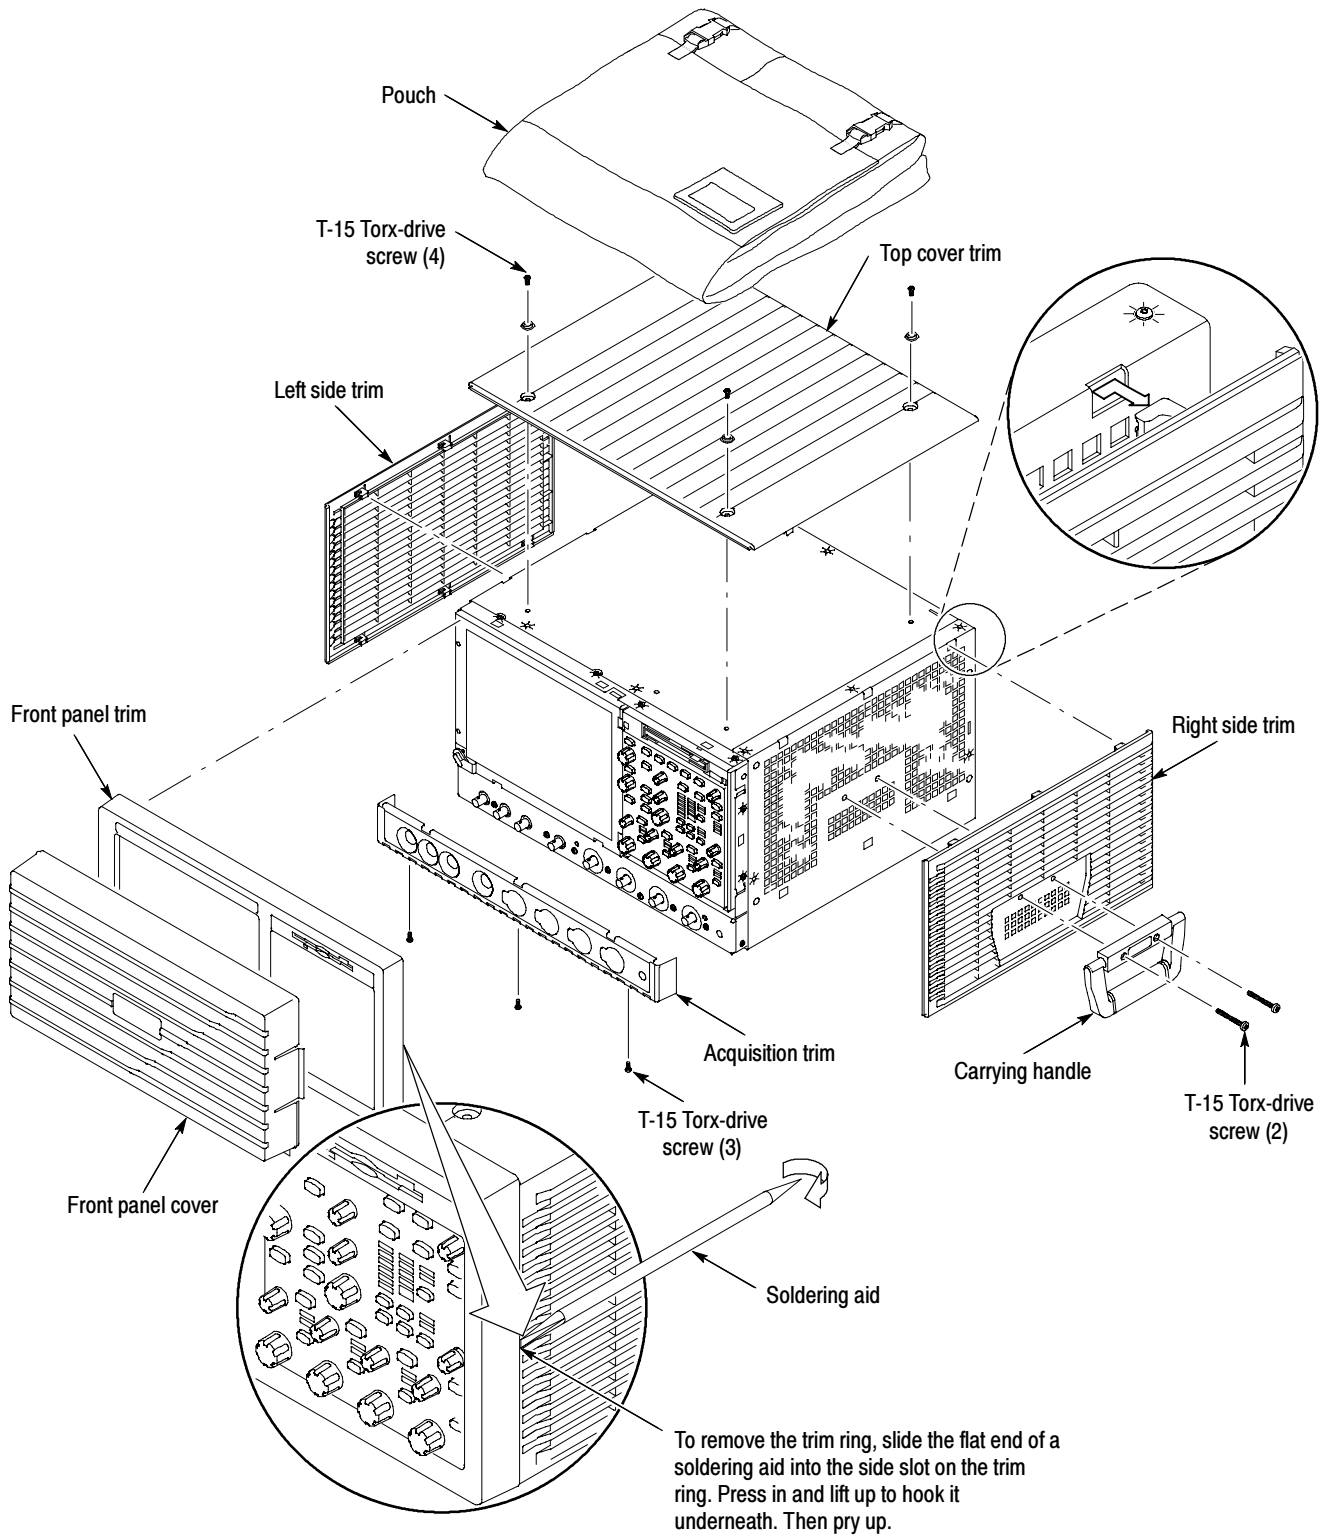

Figure 1: Trim removal
Refer to Figure 1 when performing the following steps:
- b. Grasp the front-panel trim by its top edge and pull the trim toward you to detach the three plastic snaps holding the top of the trim to the chassis. (Alternatively, you can use the flat end of a soldering aid or flat-blade screwdriver to release the snap on each side of the front-panel trim. See Figure 1.)